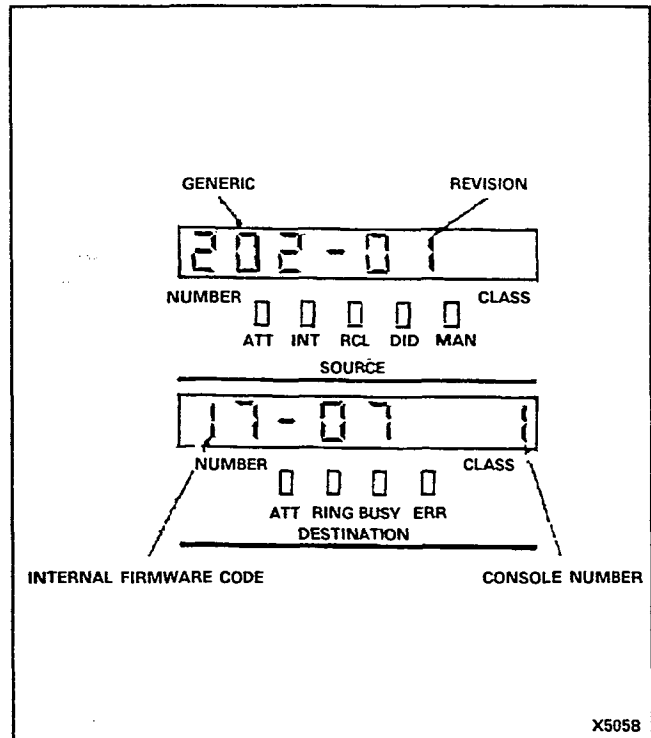

Figure 4-7 Typical Identification Display
4.49 Identify. If the IDENT button is pressed when the console is idle, the SOURCE display will show the installed firmware generic number and its revision and the DESTINATION display shows the number of the console at which the button was pressed and an internal firmware code (see Figure 4-7). If the IDENT button is pressed when the Supervisor is connected to either a source or destination party, the SOURCE and DESTINATION displays will change to show the equipment numbers and speech path number being used. When the IDENT button is pressed, the current date is shown in place of the time.